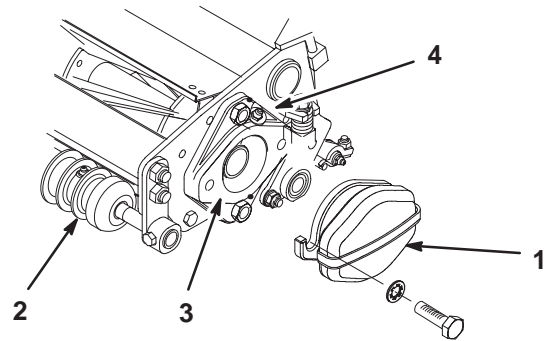
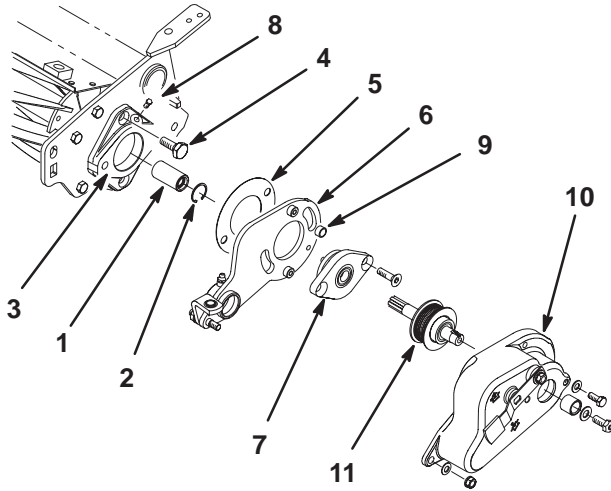

Figure 1
Figure 2
2. Remove the front roller and roller brackets from the cutting unit (Fig. 1). Retain the mounting hardware.
3. Remove the front roller from the roller brackets (Fig. 1). Retain the mounting set screws.
4. Remove the cutting unit counterweight (Fig. 1) and mounting capscrews.
5. Remove the 2 screws securing the reel bearing housing (Fig. 1) to the counterweight end of the cutting unit. If the screw heads are thick, replace them with tapered thin head screws, included in this kit.
6. Install the screws from the outside as shown in Figure 2. Secure them with the tapered nuts previously removed.
7. Install the drive coupler and snap ring into the reel shaft (Fig. 2).
8. Remove the grease fitting (Fig. 1) from the reel bearing housing and replace it with a plug (Fig. 2).
9. Remove the special screw/grease fitting, flat washer, and spacer securing the drive pulley to the drive cover housing (Fig. 2). Retain all components for future assembly.
10. Remove the 2 socket head screws (M6 x 20 mm) and washers and locknut (M8) and washer securing the drive cover housing to the pivot plate assembly (Fig. 2).